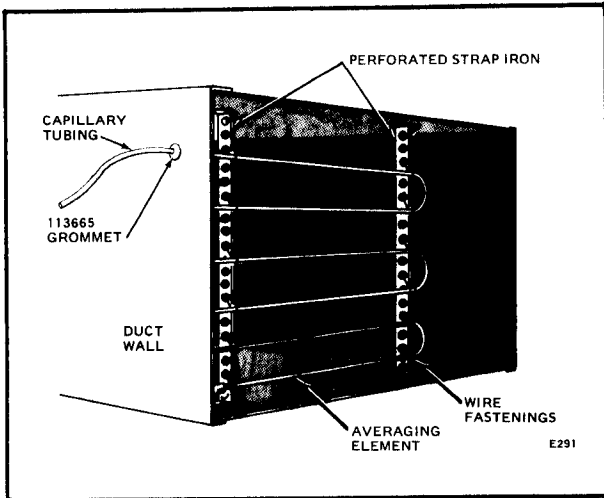
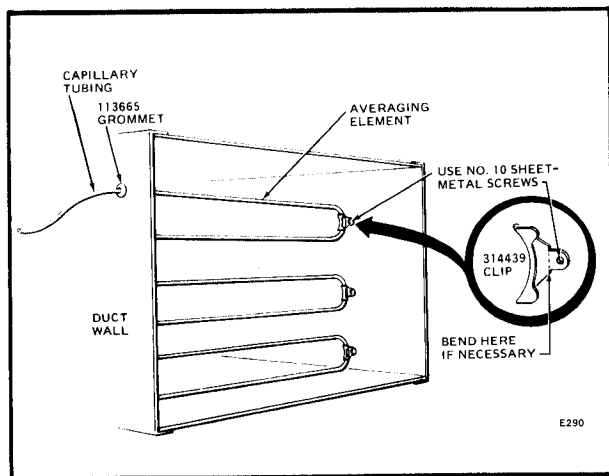

FIG. 9—AVERAGING ELEMENT MOUNTED WITH PERFORATED STRAP IRON.
FIG. 10—ELEMENT MOUNTED WITH CAPILLARY CLIPS.
**AVERAGING ELEMENT MODELS**—The averaging element should be mounted so that it is distributed evenly across the entire height and width of the duct. Fasten the element with perforated strap iron as shown in Fig. 9, or with capillary clips as shown in Fig. 10.